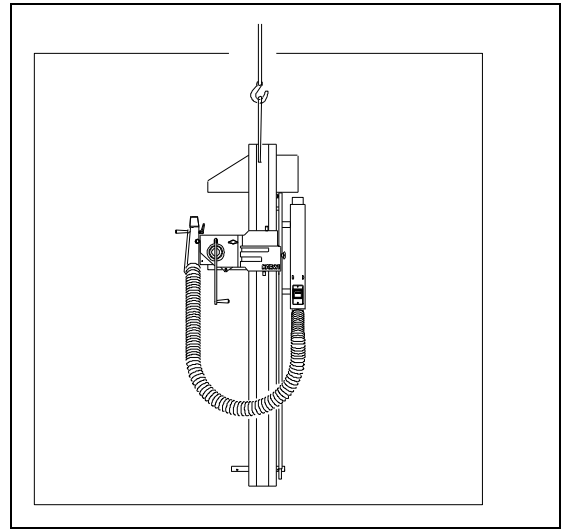

Figure 4
The slideway may only be lifted with the special cask grip on the topside of the vertical slideway.(Figures 4 and 5).
- 0 Be a wear of the centre of gravity when removing the slideway from the crate or its supports. Use the cask grip on the top when lifting the slideway. (see TRANSPORT OF THE SLIDEWAY WITH CRANE/FORKLIFTRUCK; Figures 4 and 5)